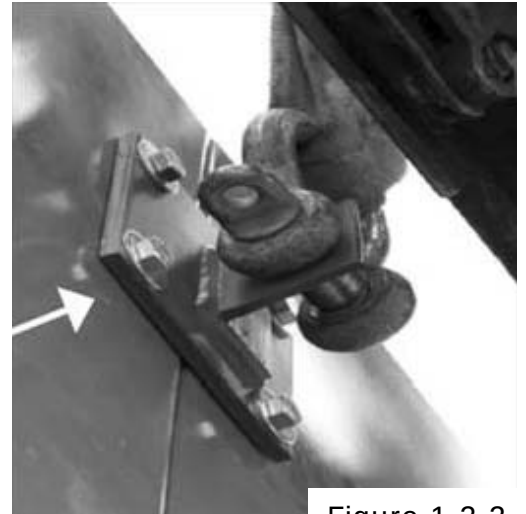

Figure 1.2.2
3. Attach a clevis pin to the installation bracket and strap the clevis pin to the lifting machinery. (Figure 1.2.2)